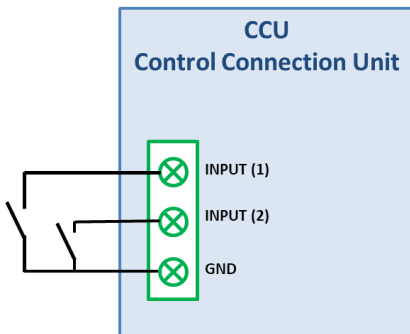

Figure 35 - Connecting Inputs in CCU
- In the CCU, and are labelled IN1 and IN2; see Figure 35 - Connecting Inputs in .